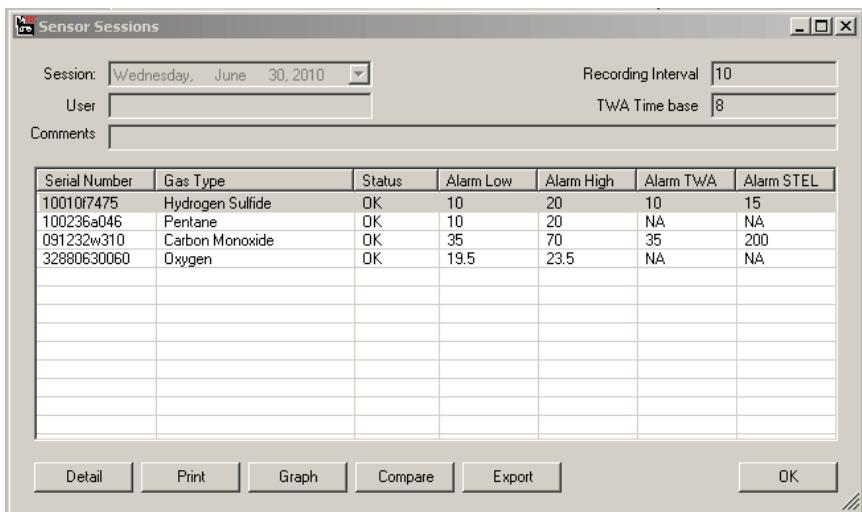

Figure 17. Sensor details.
- The “Open File” command allows the software user to view the next level of detail for a highlighted session, as shown below in the Sensor Session data (Figure 17).